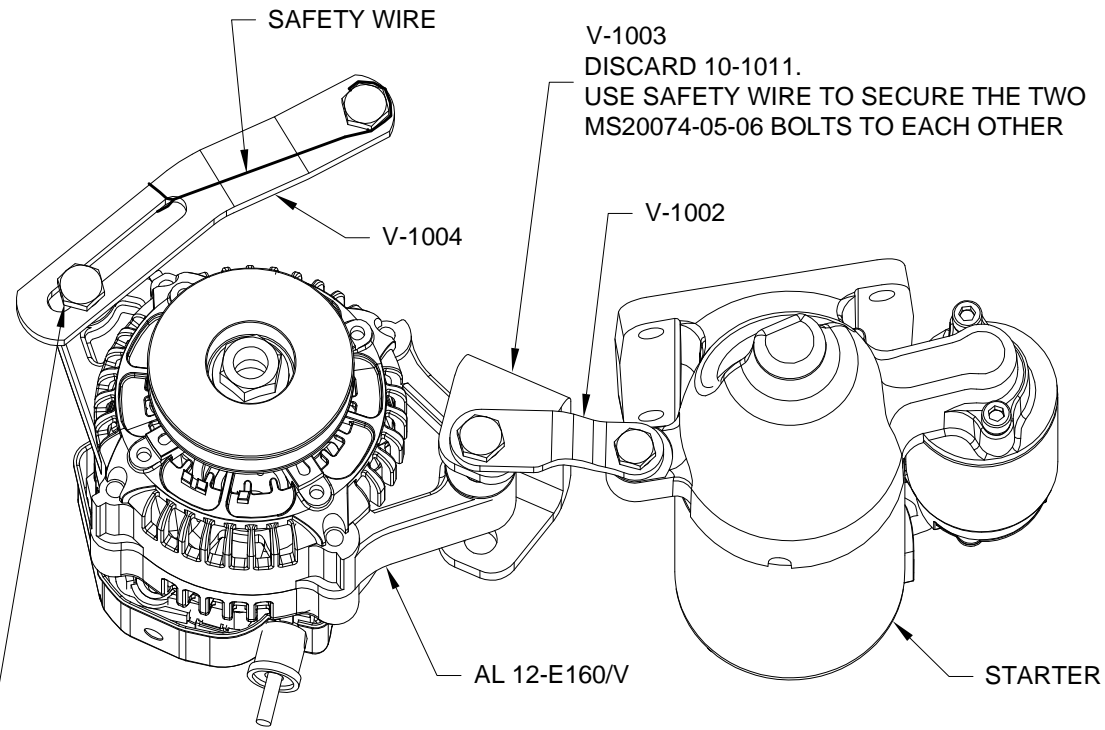

FIGURE 1: ALTERNATOR TO STARTER LINK
Step 1: Except as noted in Figure 1, install an alternator and alternator belt onto the engine as described in the alternator documentation.
Step 2: Connect the V-1002 to the starter as shown Figure 1.
Step 3: Use safety wire to secure the alternator bolts to the V-1004 where called out in Figure 1.